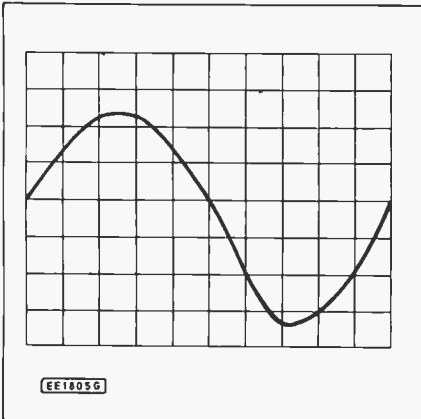

Fig. 5.10. Sinewave display.
9. What would happen to the oscilloscope displayed waveform of Fig. 5.10 if you were to adjust the trigger level?